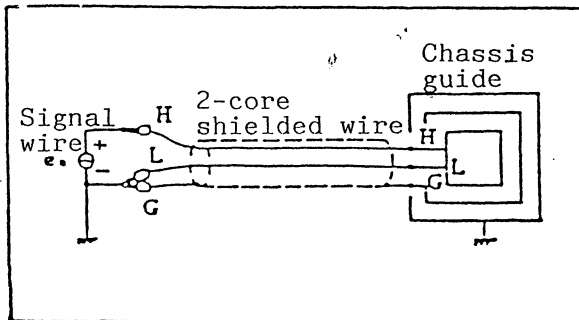

Figure 3.7
Connect the provided 3P-input lead to the input terminals on the rear face. Application of positive voltage to the red (H) terminal causes the pen to be deflected to the right. Terminals L to G are shorted using a short bar. To use the recorder at low sensitivity, apply voltage between red and black terminals without changing anything. To use the recorder at high sensitivity, loosen the black terminal and remove the short bar from the black terminal and use any one of the connections in Figures 3.7, 3.8, and 3.9 as a countermeasure against noise effects.